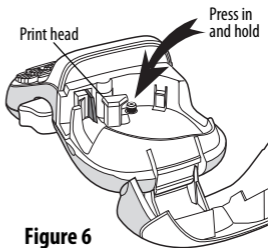

Figure 6
2. Place the tip of a ball-point pen or pencil on the black post as shown in Figure 6, and press the post down.
3. Gently wipe the padded side of the tool across the print head. See Figure 6.